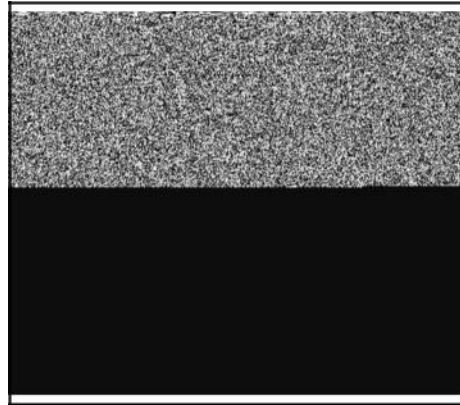

Figure 29
4. Align link (A, Figure 29) with crankcase link pin (B) and push assembly into place.